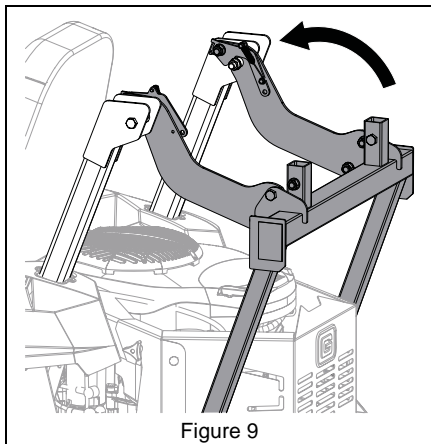

Figure 9
6. Ensure bagger posts are securely engaged in bagger mounts. Lift and rotate bagger post until bagger arms lock onto the bagger support bolts. Ensure both sides are latched. See Figure 9.